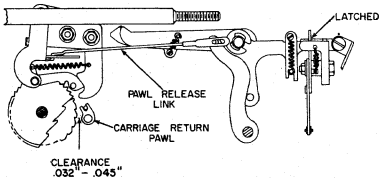

Figure 39
8. Hook up and adjust the pawl release link so that with the tab latched, the carriage return pawl is .032" - .045" distance away from the escapement pinion ratchet (Figure 39). The pawl release link must have about .090" (3/32") additional movement before limiting. These clearances are necessary so that when the carriage is manually released the pawl release link will not restrict the releasing action between the release pawl lever and the